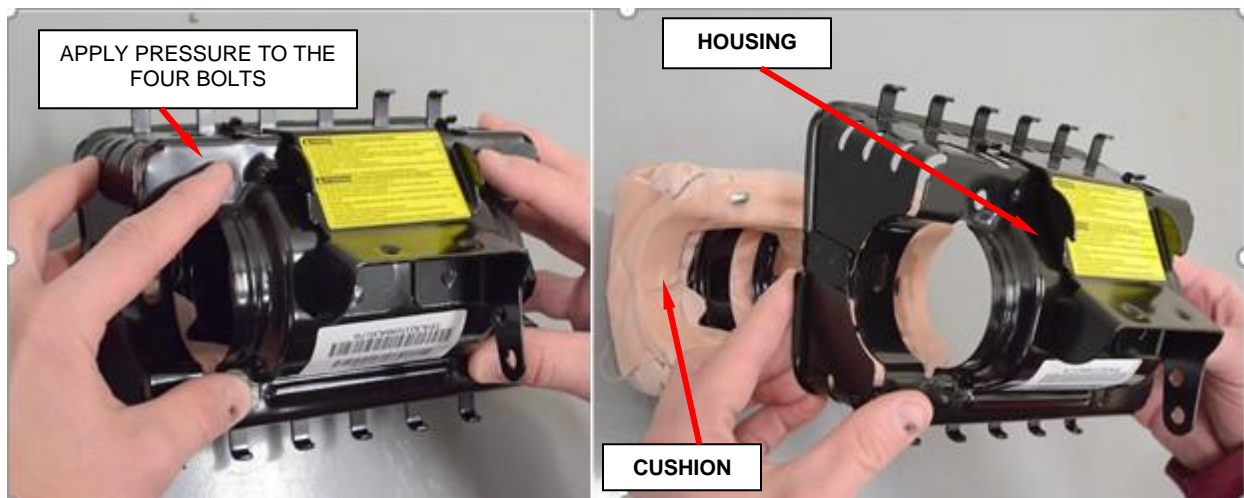

Figure 54 – Remove Airbag Cushion from Housing
h. Remove airbag cushion from housing by applying pressure to the bolts, set cushion aside (Figure 54).